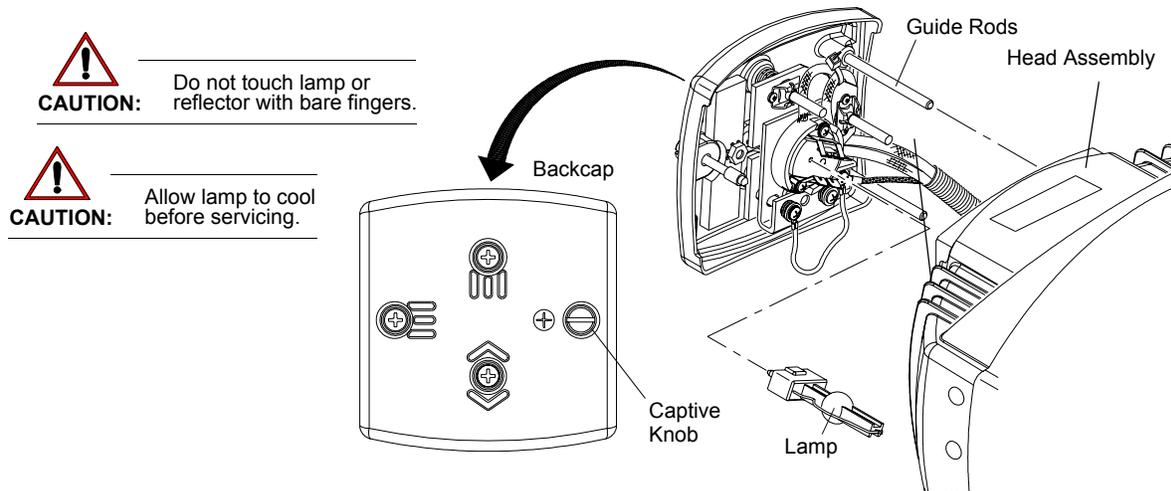

Figure 4-1: Lamp Replacement
- Step 3. At backcap, loosen captive knob and slide backcap out of head assembly (it will remain attached by tether). (**Figure 4-1.**)